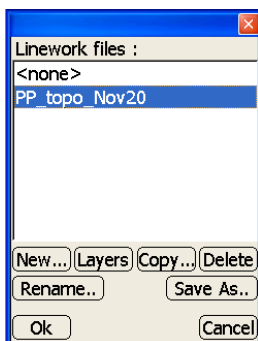

Figure 2-37. Select Linework File
3. Press **Ok** to return to the *Linework files* dialog box and select the newly created Linework file (Figure 2-37).